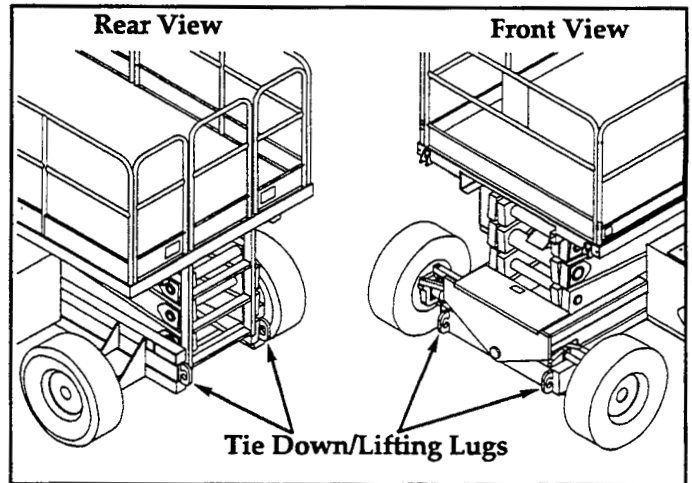

Figure 2-2: Transporting Work Platform
1. Secure straps to chassis tie down/lifting lugs only (Figure 2-2).